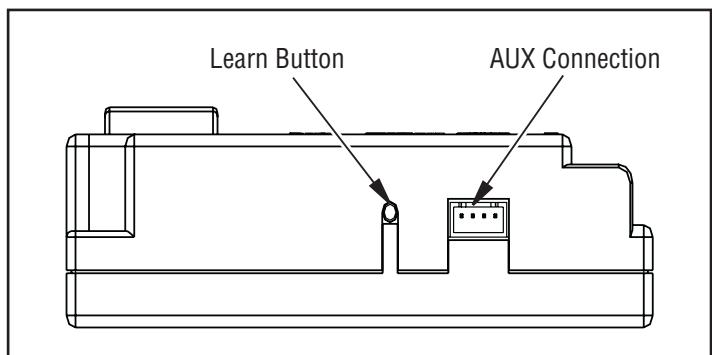

Figure 36 - Gas Module Left Side
1. There is a switch located on the right side of the module that reads REMOTE/OFF (*Figure 36*).
- To program the module (make sure the system has power), locate the learn button (*Figure 36*) on the module. Press and release the learn button. There will be a beep sound from the module. Then press any button on the remote transmitter. Once the module's internal receiver accepts the transmitter code, there will be a series of confirming beeps.